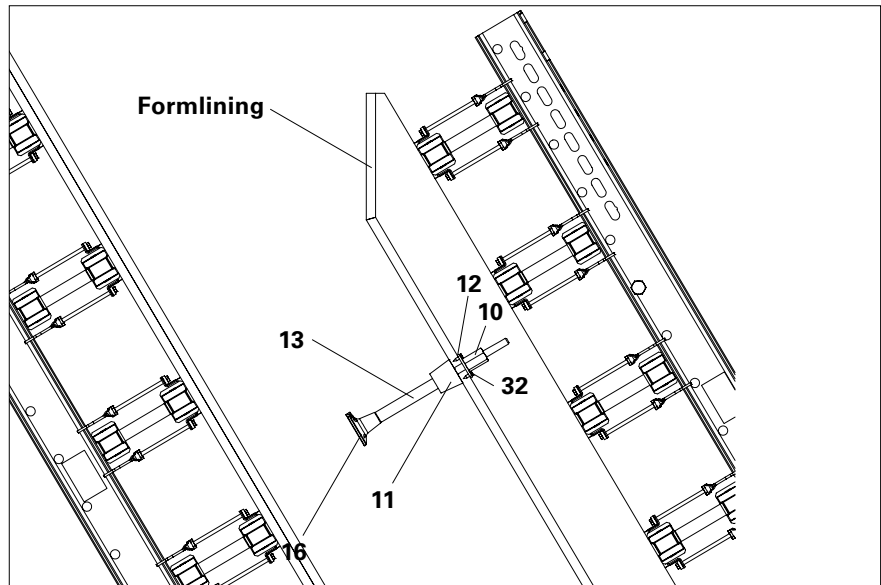

Fig. B1.04
2. Align the Anchor Positioning Plate (10) and screw it to the outside of the formlining using hex. wood screws DIN 571 6 x 20 (32).
3. Screw Threaded Anchor Plate DW 15 (16) onto the Tie Rod DW 15 (14a).
4. Attach Spacer Tube rough (13) and DK Sealing Cone (11).
5. Insert the tie from the inside of the formwork through the Anchor Positioning Plate and screw on tightly with hex. nut DW 15 (12). (Fig. B1.04 – B1.06)